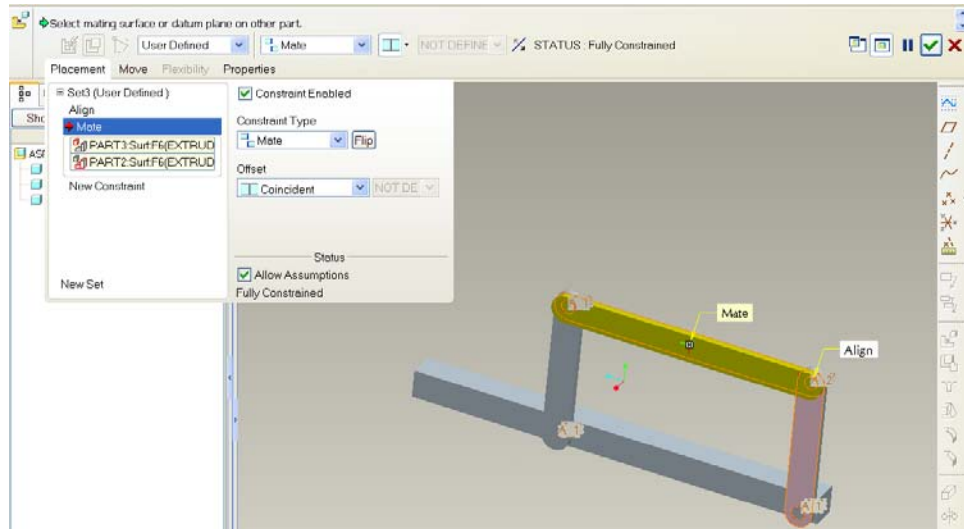

Figure 7
- e) Choose Surface F6 on part3 and surface F6 on part2 for mate as shown in figure 7 and click . The mechanism is fully constrained.